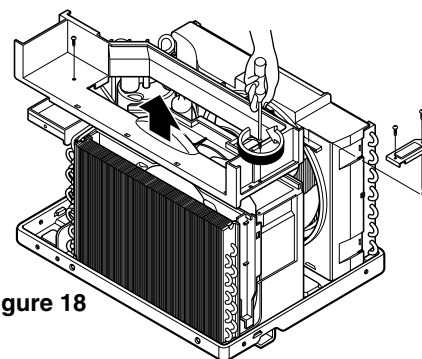

Figure 18
5. Remove 2 screws that secure the brace to air guide upper and shroud. (See Figure 18)